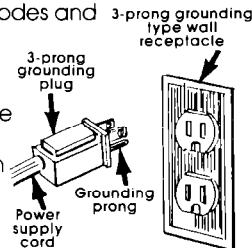
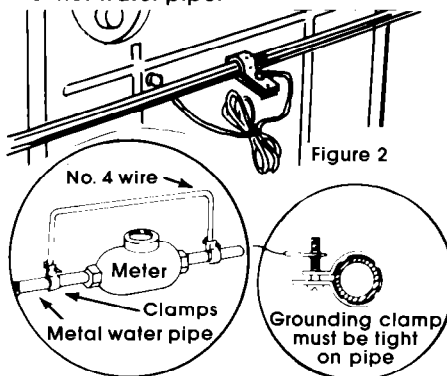

Figure 1
Figure 2
For your personal safety, this appliance must be grounded. This appliance is equipped with a power supply cord having a 3-prong grounding plug. To minimize possible shock hazard, the cord must be plugged into a mating 3-prong grounding type wall receptacle, grounding in accordance with National Electrical Code, ANSI/NFPA 70-1987 and local codes and ordinances. See Figure 1. If a mating wall receptacle is not available, it is the personal responsibility and obligation of the customer to have a properly grounded 3-prong wall receptacle installed by a qualified electrician. For added personal safety, use clamp and green colored copper grounding wire. Connect the grounding wire (#18 minimum) from the external grounding connector on the back of the washer to a grounded cold water pipe.* See Figure 2.
* Grounded cold water pipe must have metal continuity to electrical ground and not be interrupted by plastic, rubber or other electrical insulating connectors such as hoses, fittings, washer or gaskets (including water meter or pump). Any electrical insulating connector should be jumped as shown in Figure 2 with No. 4 wire securely clamped to bare metal at both ends.
electrical inspector), a temporary adaptor may be plugged into the existing 2-prong wall receptacle to mate with the 3-prong power supply cord. **THIS IS NOT RECOMMENDED.** If this is done, you **must** connect a separate copper grounding wire as (#18 minimum) to a grounded cold water pipe* by means of a clamp and then to the external grounding connector screw. Do not connect the power cord to outlet until the appliance is permanently grounded. See Figure 2.